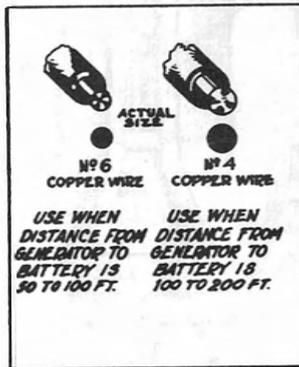

FIG. 7
**THE MAXIMUM RECOMMENDED DISTANCE BETWEEN THE GENERATOR AND THE BATTERY IS 100 FEET.** For distance up to 50 feet use No. 6 wire, for distances of 50 to 100 feet use No. 4 wire. See Figure 7.